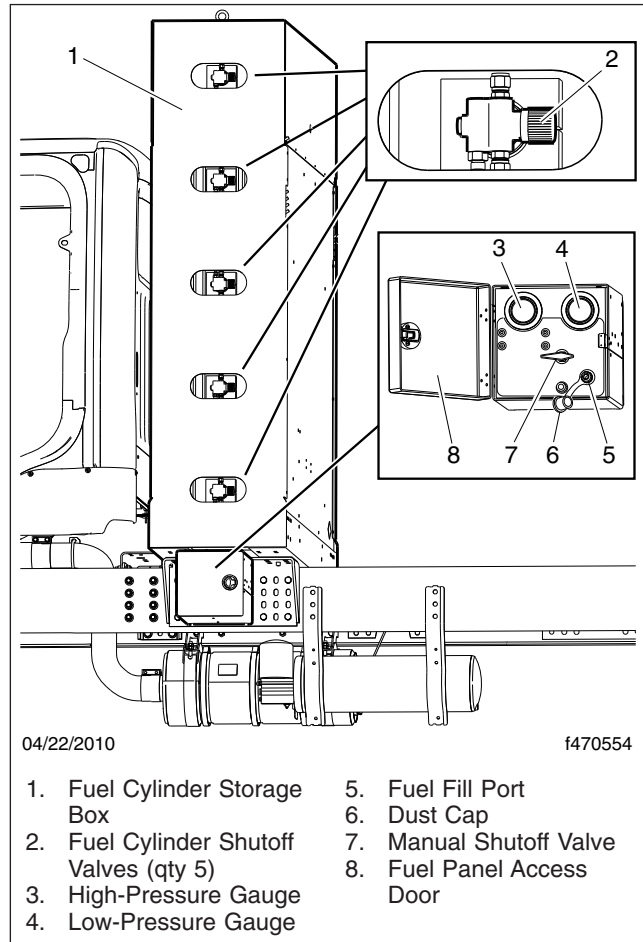

Fig. 13, CNG Fuel Cylinder Storage Box (5-cylinder system shown)
- fuel cylinder shutoff valves (see **Fig. 13**)